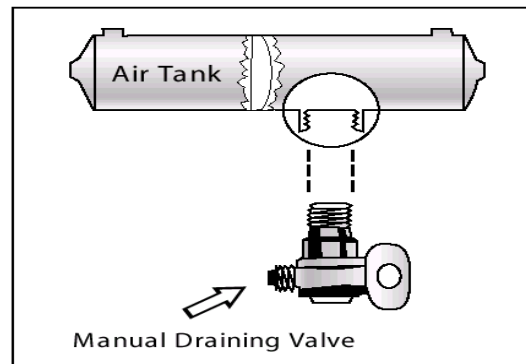

Figure 5.1
- ☐ Manually operated by turning a quarter turn or by pulling a cable. You must drain the tanks yourself at the end of each day of driving. See Figure 5.1.